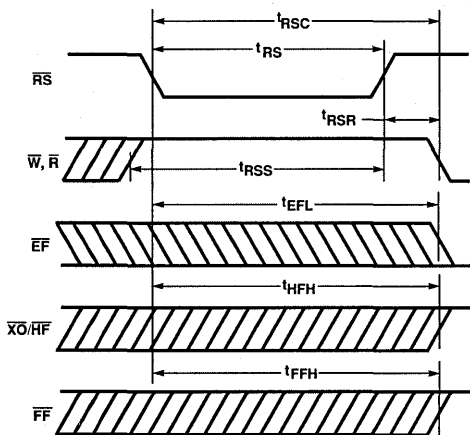

Figure 2. Reset Timing
Upon power up, the FIFO must be initialized with a Reset cycle. (See Figure 2.) The states of XI and FL are used during the reset cycle to determine the FIFO's mode of operation, as shown in Tables 1 and 2. For a valid reset cycle to occur, both the Read (R) and Write (W) signals must be HIGH  $t_{RSS}$  prior to and  $t_{RSR}$  after the rising edge of Reset (RS). The reset cycle initializes the FIFO to an empty condition, signified by the Empty Flag (EF) being LOW, active, and both the Half-Full (HF) and Full Flag (FF) being HIGH, inactive.